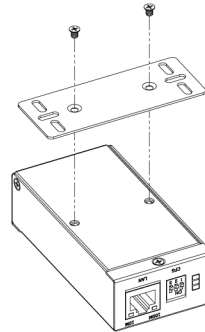

Figure 1
STEP 1: At the rear side of the Ethernet Extender, use two screws to install the bracket, as shown in Figure 1.